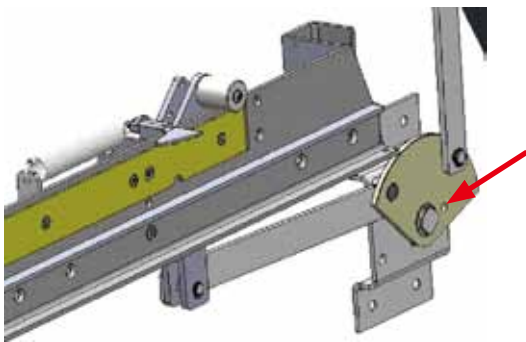

Figure 6/2 : shutter mechanism
- Withdraw the circuit break . Open the shutter mechanism, and insert two M8 bolts into the overlapping holes on the shafts (See figure 6/2). Then the fixed contact along with the spout bushing are visible.
- Remove the bolts on the fixed contact, and replace the fixed contact (see figure 6/3)